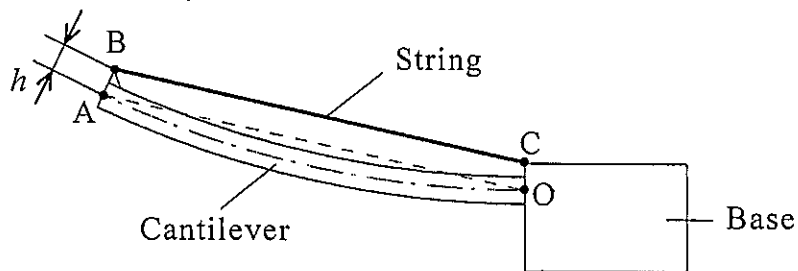

Figure 3-3
- (5) Cantilever is bended by applying the tensile force to the string. Obtain a bending stiffness of the cantilever using T , h , L and y , where y is a flexure of the cantilever caused by the tensile force T , and sufficiently small compared with L .
- (6) Express the condition of Young's modulus E to realize the bending stiffness in Question (5), using T , h , L , y , w and t .
- (7) When the tensile force obtained in Question (1) is applied to the string, the cantilever is bended as shown in Figure 3-3. Obtain a difference in length between two straight-lines AO and BC with two-digit accuracy, where A and O are the ends of the cantilever, and B and C are the ends of the string. Here, use $h=10$ mm, $L=7.0 \times 10^2$ mm, $w=30$ mm, $t=10$ mm and $E=60$ GPa.